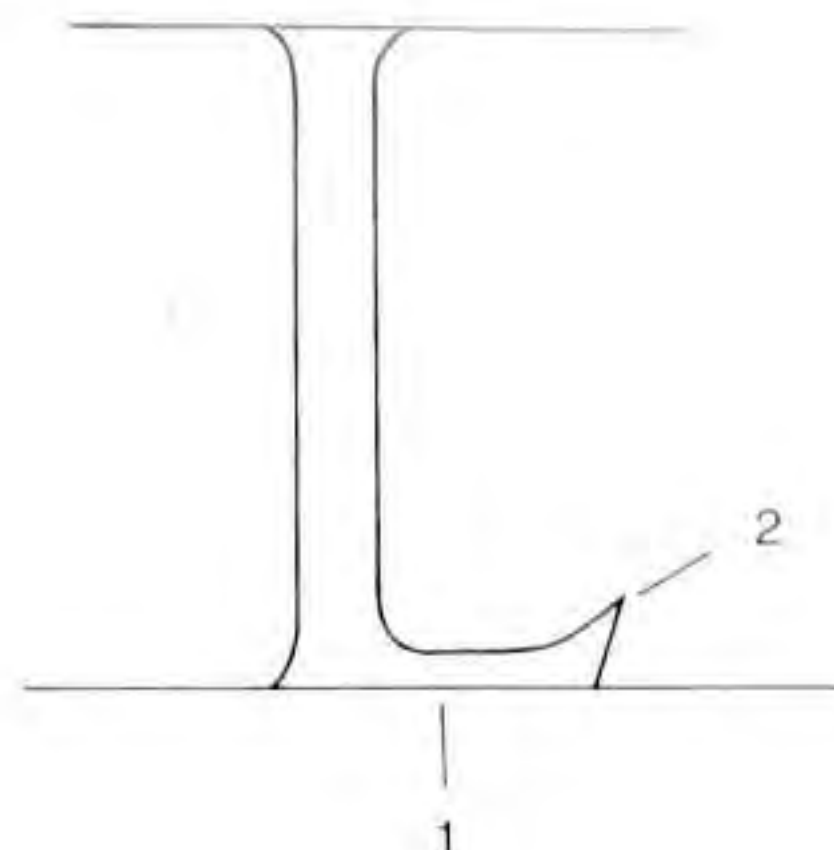

Fig 6.13 Features of the letter *L*.
See Fig 6.13. Essentially this is the lower part of **E**, which it should resemble closely. There is scope for lengthening or shortening the leg to fill in open space against the next letter (1). The lower serif should be tilted out, to open up the counter (2).